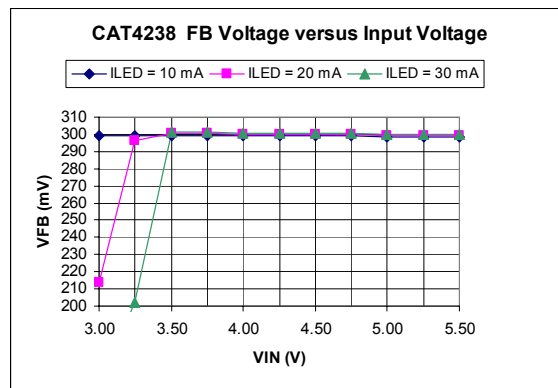

Figure 5. V_{FB} voltage Line Regulation
- Observe the value of I_{LED} measured by the current meter and V_{FB} using a voltmeter. Figure 5 presents the I_{LED} current versus V_{IN} . Figure 5 shows the CAT4238 FB voltage versus input voltage.